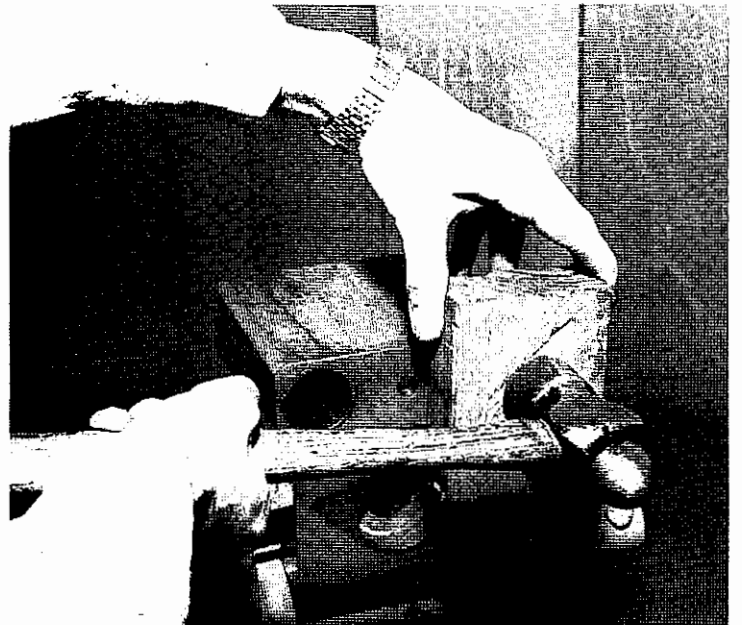

FIGURE 16
4. Insert new bushings in die carriage. NOTE: Bushings should be started into hole by "LIGHTLY" tapping with hammer (Fig. 15). After bushings are started place a block of wood against bushings to prevent damage when driving them in (Fig. 16) If bushings are damaged, use a round or half-round file to remove burrs from bushings.